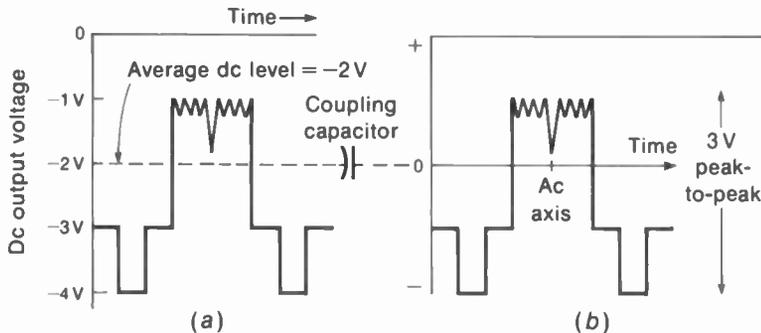

FIGURE 13-28 VIDEO DETECTOR OUTPUT VOLTAGE. (a) DC FORM. (b) AC FORM AFTER AVERAGE DC COMPONENT IS BLOCKED BY COUPLING CAPACITOR.
More details of the detector output voltage are shown in Fig. 13-28. In *a*, the dc axis of  $-2$  V is the average level. A dc voltmeter can be used to read this dc level of  $-2$  V.
**Peak-to-peak ac signal.** The video signal is in the variations of the dc voltage. In Fig. 13-28*a* the peak voltage is  $-4$  V and the minimum is  $-1$  V. Therefore, the peak-to-peak amplitude for the signal voltage variations is 3 V. No polarity is assigned to the ac component.
In Fig. 13-28*b*, the ac signal is shown without the dc level, which is blocked by a coupling capacitor. The dc axis in *a* becomes the average level of zero in *b* for the ac signal. In both cases, the peak-to-peak amplitude is 3 V for the variations in signal voltage. The 3-V signal is typical for driving a video amplifier tube. For transistors, the signal output of the video detector is about 1 V, peak-to-peak.